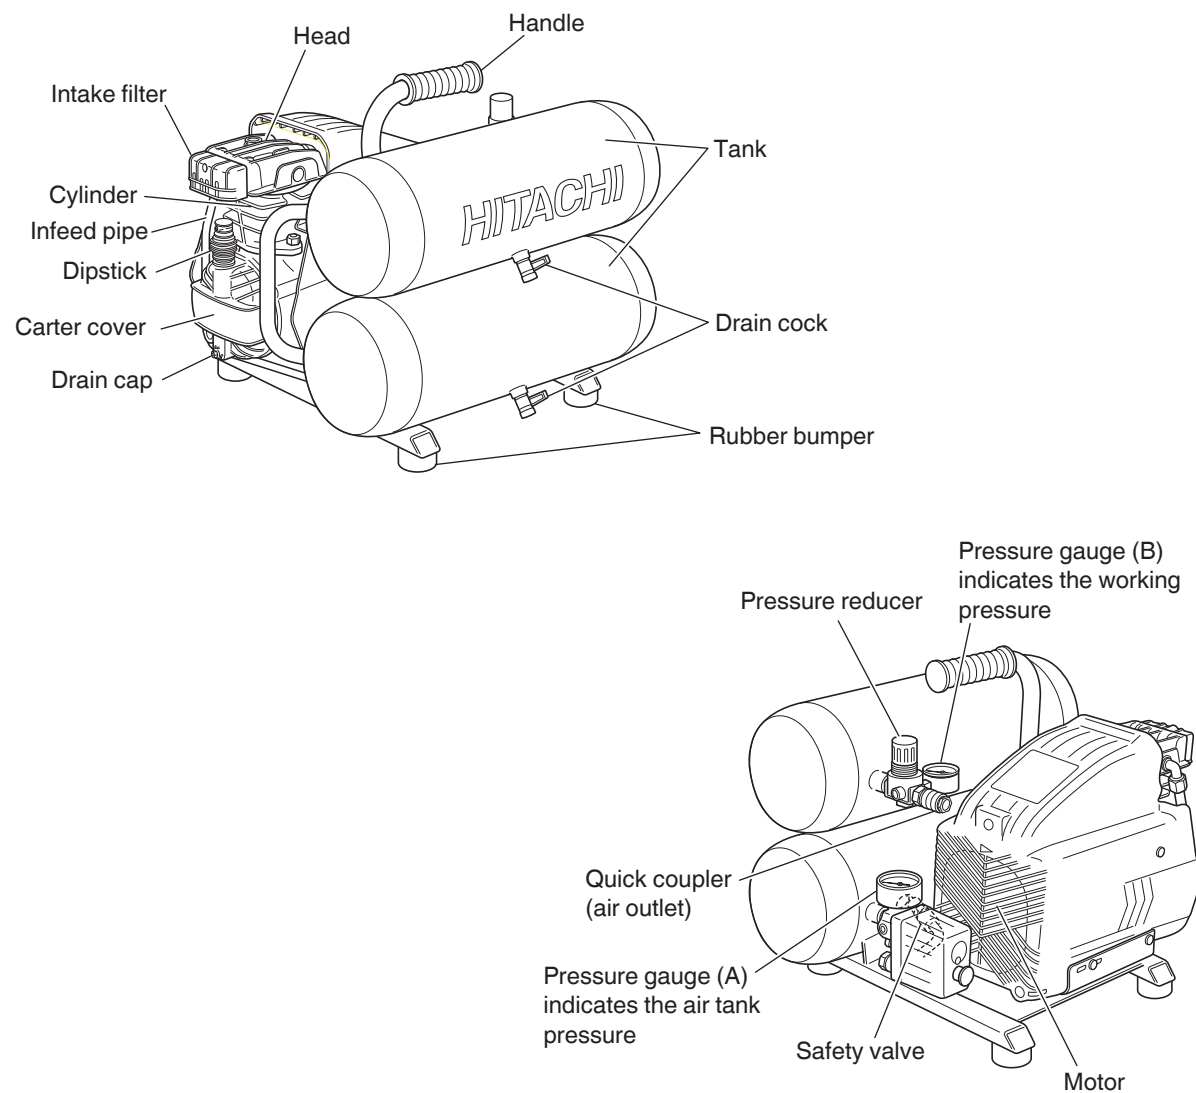

Fig. 1
**NOTE:** When operating or storing the compressor, set 4 rubber bumpers downward on the floor (Refer to Fig.1)